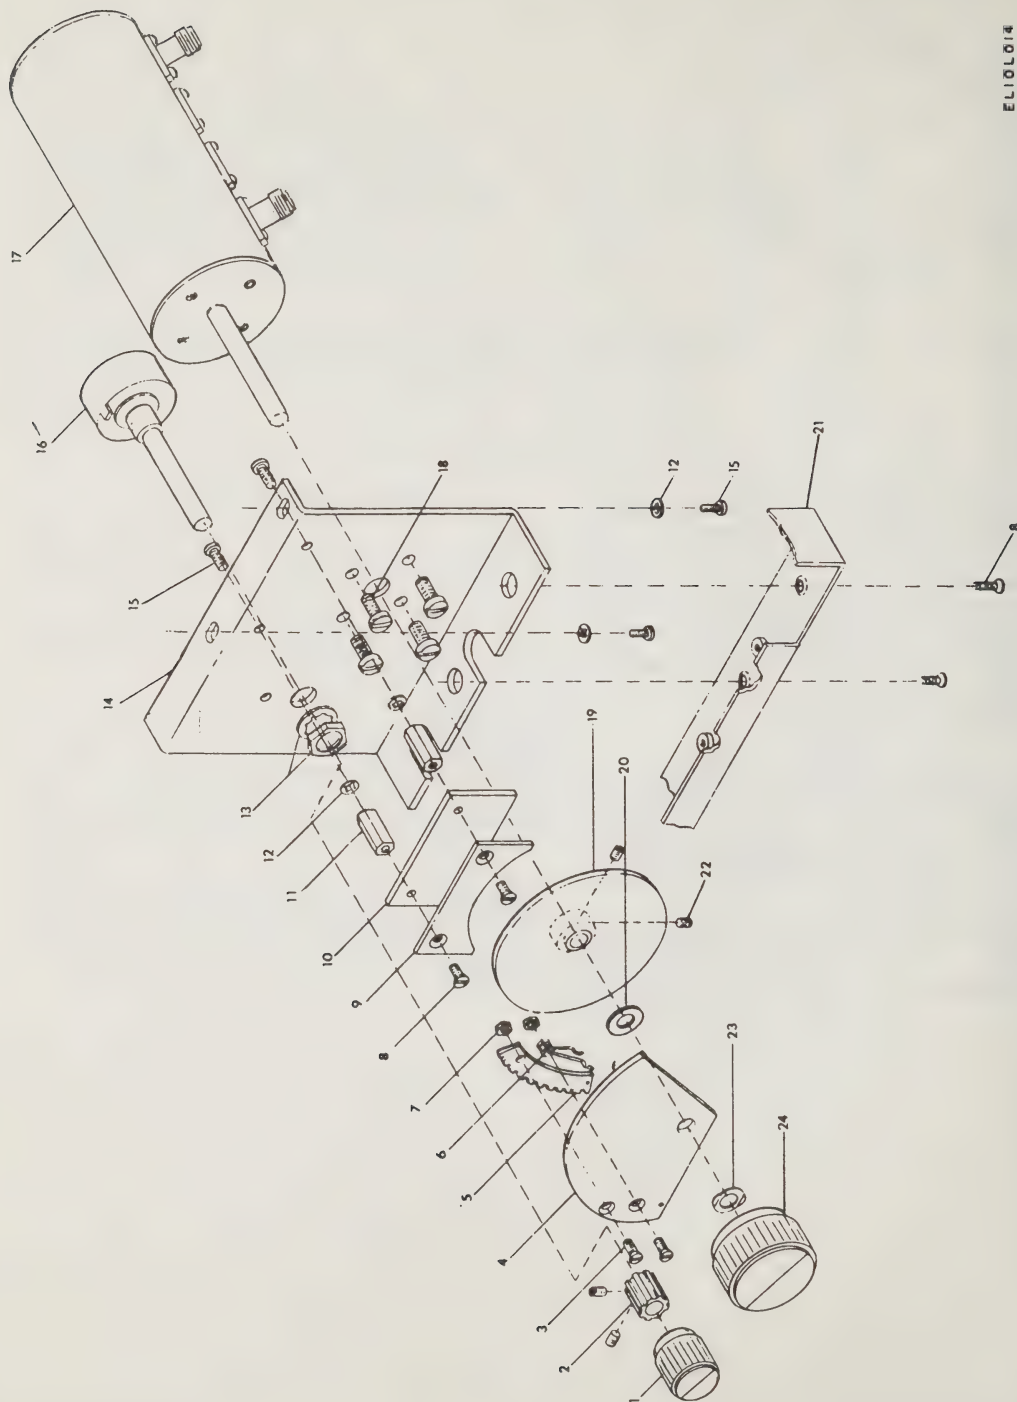

Figure 7-18. Attenuator assembly, exploded view.
- (1) Remove two flat head screws (15 fig. 7-18).
- (2) Remove panhead screws (8).
- (3) Remove attenuator and vernier knobs (1 and 24).
- (4) Disconnect output cable from attenuator (17).
- (5) Remove attenuator assembly from unit.
- b. Loosen the two setscrews (22) on the attenuator dial (19).
- d. Set the attenuator dial so that the +5 and 0 dbm numerals are aligned with the cardinal points on the dbm scale (4). The face of attenuator dial (19) should be in the same position as the face of the dbm scale (4).
- e. If the cursor assembly has been removed, reengage the cursor gear (5) with the vernier gear (2) so that the cursor traverses the entire dbm scale on the dbm scale bracket when the vernier control is rotated.
Key to figure 7-18: